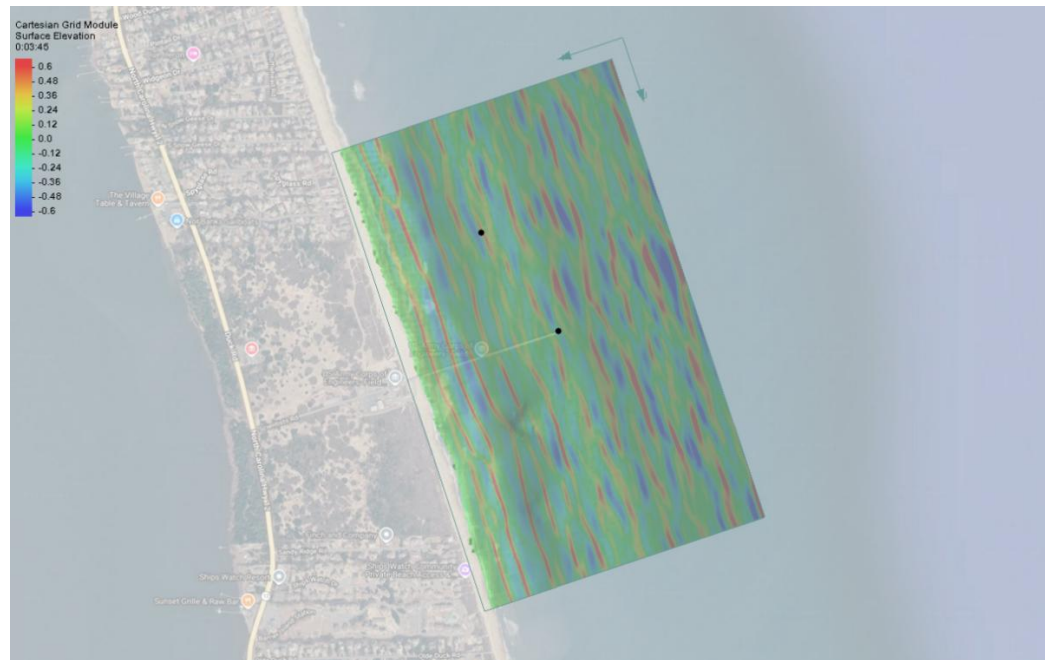

Figure 3 FUNWAVE Output Stations solution
9. In the *Time steps* window, step through the various time steps and see the changes in the *Graphics Window* which should look similar to Figure 3.